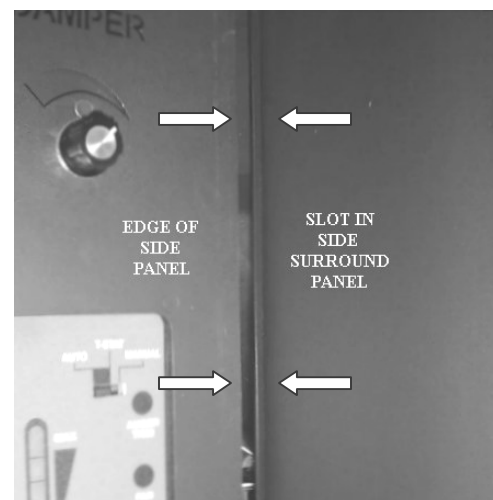

Figure 8
5. Slide the assembled surround around the insert and in front of the fireplace opening. Slowly slide the insert back and insert the side panels into the slot on each side of the surround as shown in Figure 8.